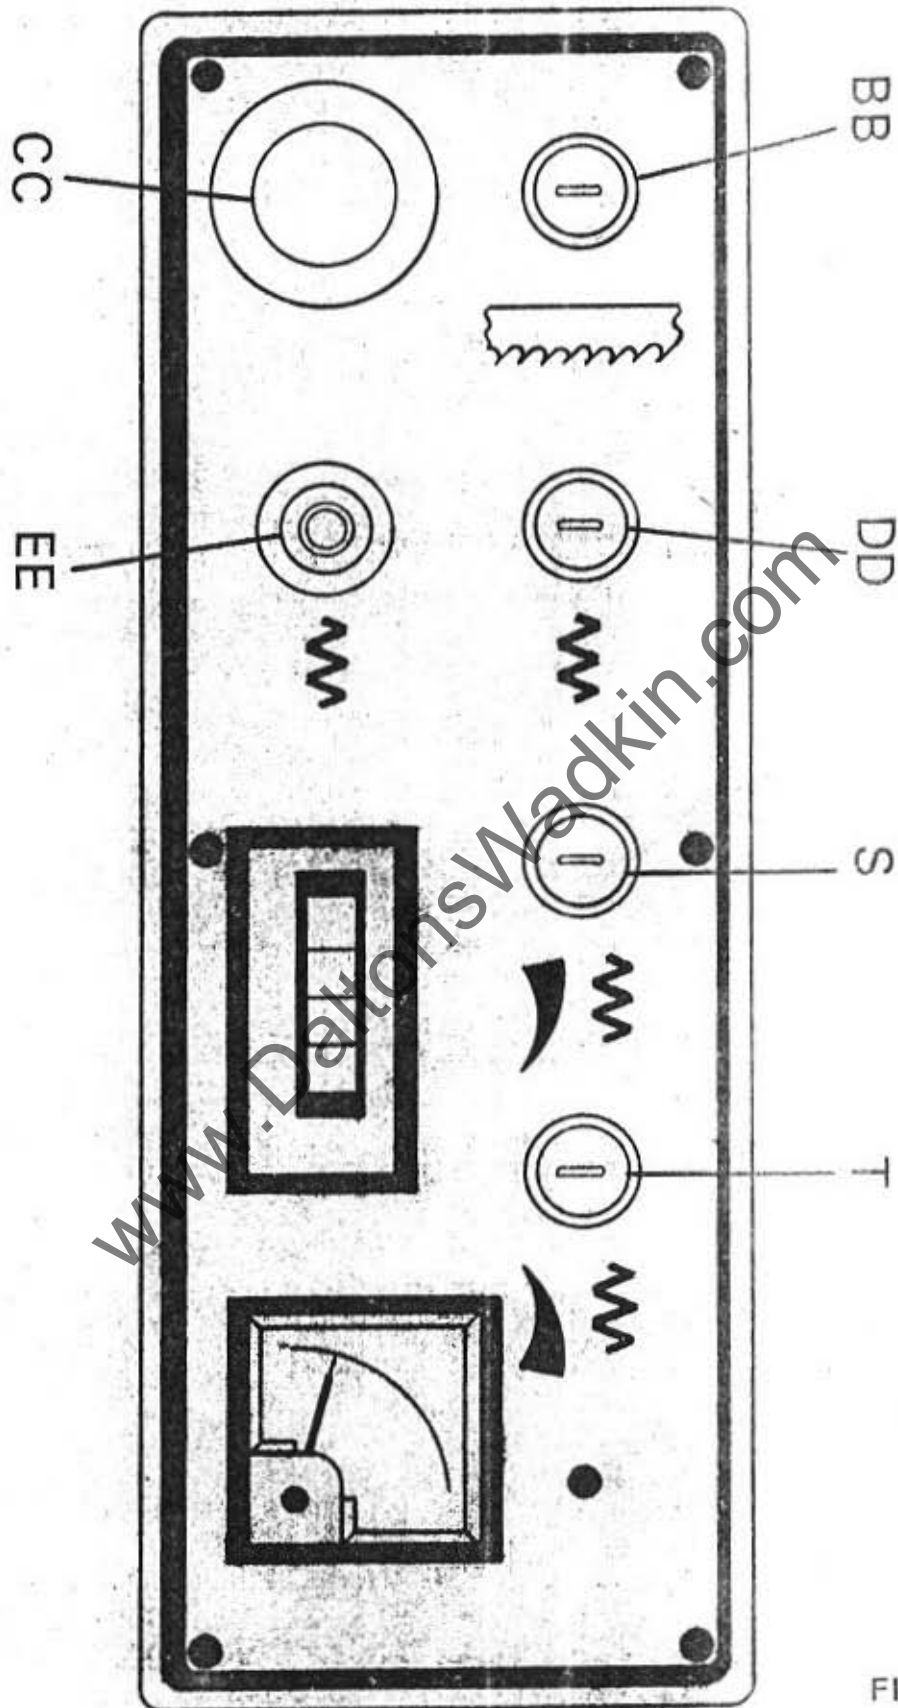

FIG 34
On the International Model the feed speed is controlled automatically by means of a servo unit. (*Fig.34*). Controls 'S' & 'T'.
- 2) The stop / start buttons ('BB' & 'CC' Fig.34). control the saw motor and will not function unless the isolator is switched on.
- 3) The stop / start buttons ('DD' & 'EE' Fig.34) . control the feed speed motor and will not operate unless the saw motor is running.
- 5) Control Panel master stop ('CC'.Fig.34). when pressed will stop all electrical functions. To reset pull out the red stop button.
Button 'S' (Fig.34). will increase the feed speed
Button 'T' (Fig.34). will decrease the feed speed
- 7) Digital feed rate readout (Fig 34.)(where fitted) displays either metric (M/Min) or imperial (Ft/Min) depending on which is specified.
- 8) Ammeter (Fig.34.where fitted) will give indication of current absorption by the blade. The feed speed should be decreased if the current exceeds 25-30 amps until a suitable level is once more achieved. In general, a reading of 40-50 amps indicates the re-saw blade requires changing.